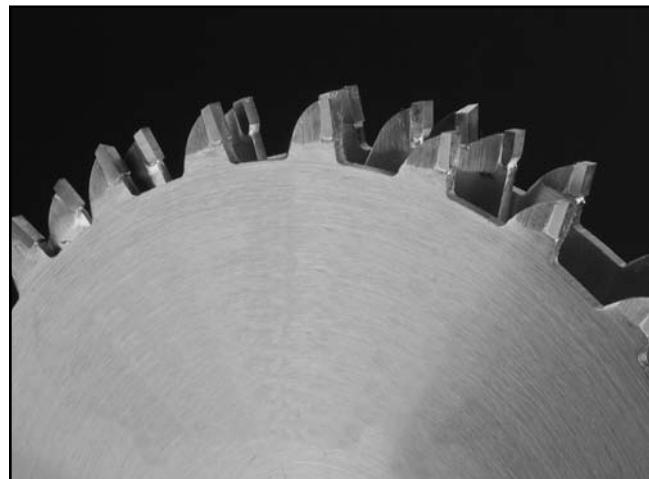

Figure 28. Optional dado blade.
- Stacked Dado Blade—These dedicated dado cutting blades consist of a set of up to 8 individual blades. Multiple cutters are "stacked" between two outside blades. The width of the dado is determined by the combination of cutters that are "stacked" together. The dado is cut in a single pass leaving a smooth and square channel in the face of the workpiece as shown on **Page 31**. Stacked dado blades are the most expensive option but are worth considering if your projects require a lot of visible dado cuts. A typical stacked dado blade is shown in **Figure 28**.
Commonly used in furniture joinery, a dado is a straight channel cut in the face of the workpiece. Dadoes can be cut using either a dado blade (Figure 28) or a standard saw blade.